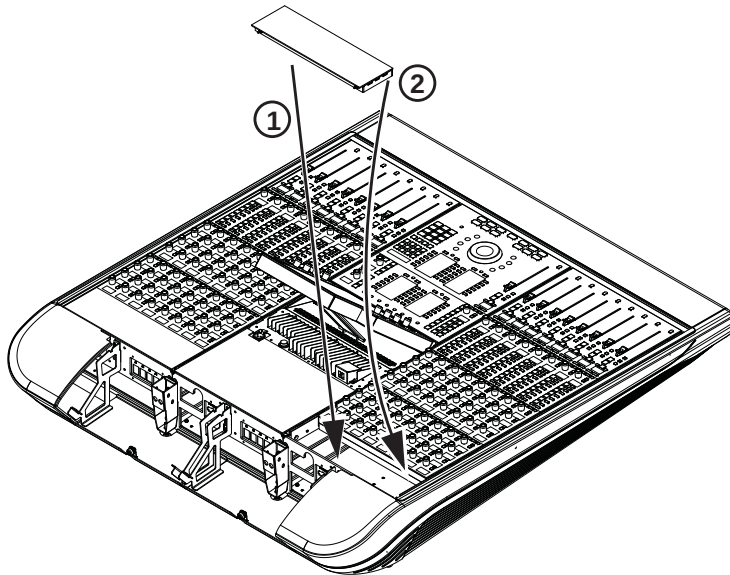

Figure 37. Installing a Channel Compression Panel
- 3 Holding the panel at an angle, place the spring side of the panel against the back of the chassis and apply enough pressure to compress the springs, then lower the front edge of the Compression Panel into place at the top of the chassis as shown in Figure 37.